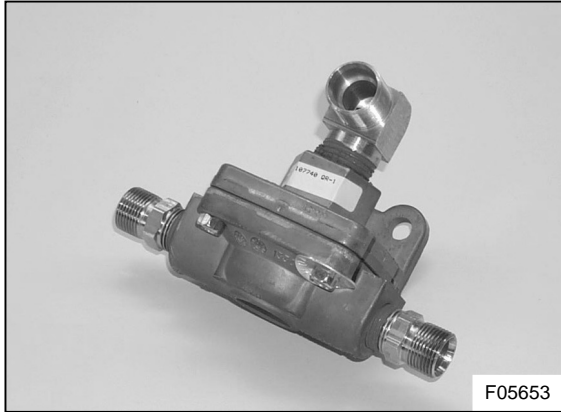

Figure 6: Quick release valve (shown with fittings but without hoses)
- 1) Underneath the coach, locate the quick release valve (see Figure 6) in the chassis section ahead of the front axle wishbones.